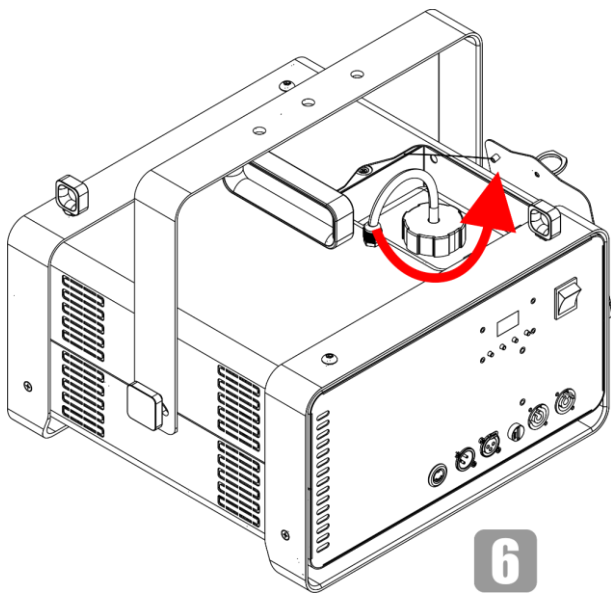

Fig. 13
- 06) Unscrew the lid on the fluid tank, as shown in Fig. 13.